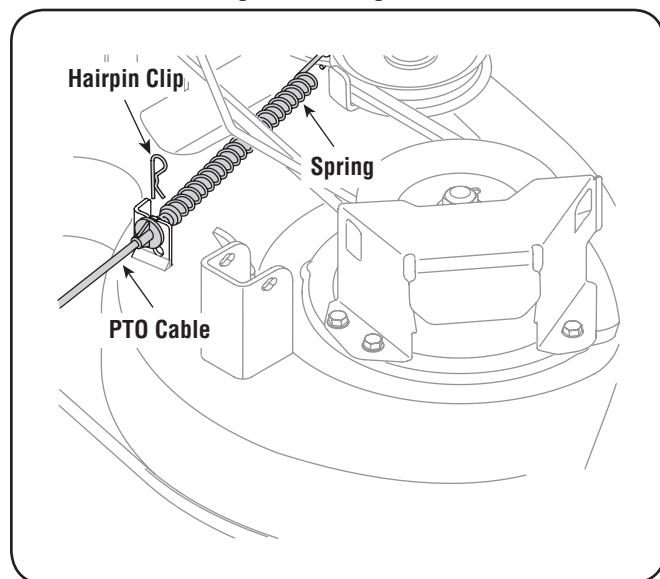

Figure 7-1
3. Remove the hairpin clip that secures the PTO cable to the rear of the cutting deck. See Fig. 7-1.